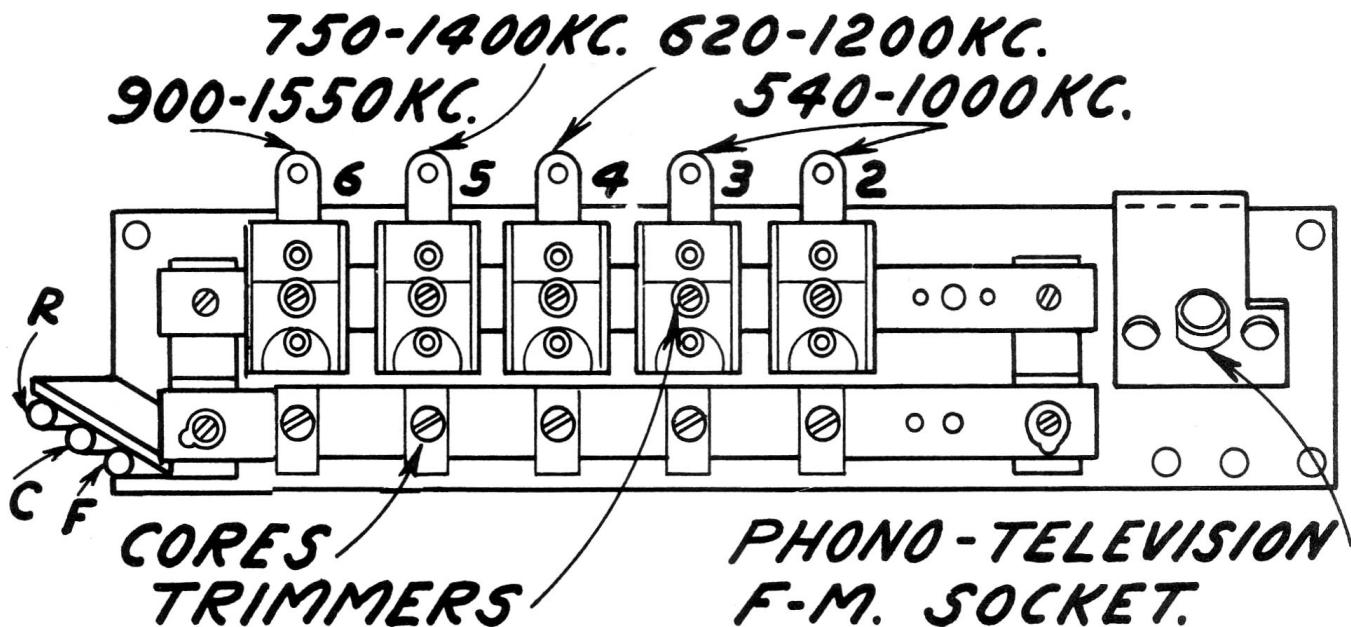

Fig. 4
- (1) Turn "Range selector" to "A" position and manually tune in the first station, say 560 k.c.
- (2) Turn "Range selector" to "P.B." position, press key No. 2 located second from left on front panel.
(3) Referring to Figure 4, adjust core and padder No. 2 for a peak at 560 k.c.
(4) Proceed to adjust the other four stations in order of frequency, as outlined above.